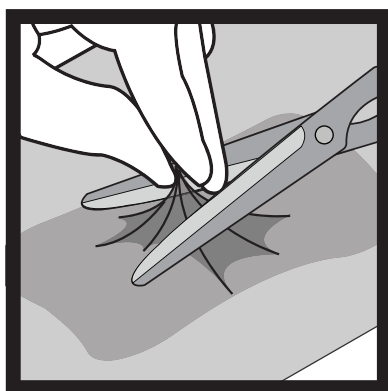

Figure 10
11. Cut a 1cm diameter hole in the top of the drape at a convenient location over the foam dressing by pinching and lifting the drape (Figure 10).